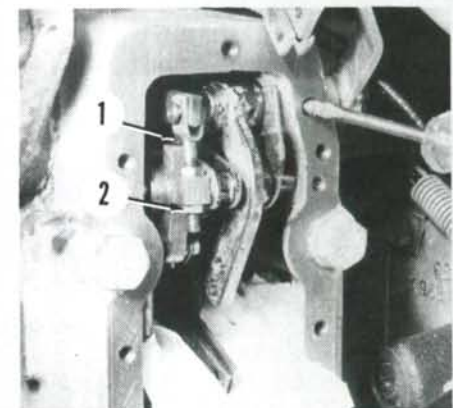
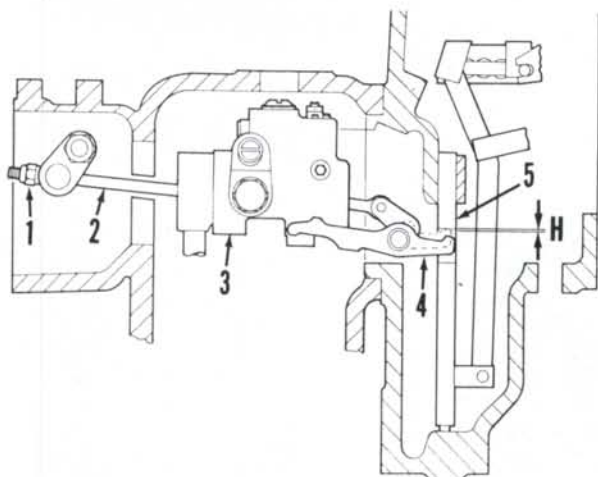

Fig. 251—Remove cover from rear of right-hand rockshaft bracket to gain access to draft link adjuster (1) and adjusting nuts (2) on Model 1594.
Fig. 252—Adjust control rod nut (1) to provide 2 mm (0.080 inch) gap (H) between rocker lever and sliding bar. Refer to paragraph 319.
Raise lift arms by hand and support in fully raised position with stands. Remove cover from rear of right-hand rockshaft housing. Loosen lower nut (2—Fig. 251) on draft link adjuster (1) until nut is even with end of adjuster rod. Remove cover from control housing on right side of axle housing. Turn adjusting nut (1—Fig. 252) on end of control rod (2) clockwise to increase clearance between rocker lever (4) and sliding bar (5), then turn nut (1) counterclockwise until there is a 2 mm (0.080 inch) gap (H) between lever and bar. Insert feeler gage through rear opening in rockshaft bracket to measure gap.
Lower the linkage, then raise linkage to full lift position. Move sensing control lever rearward to full draft position. Turn lower nut (2—Fig. 251) on draft link adjuster (1) clockwise until pressure relief valve just closes, then